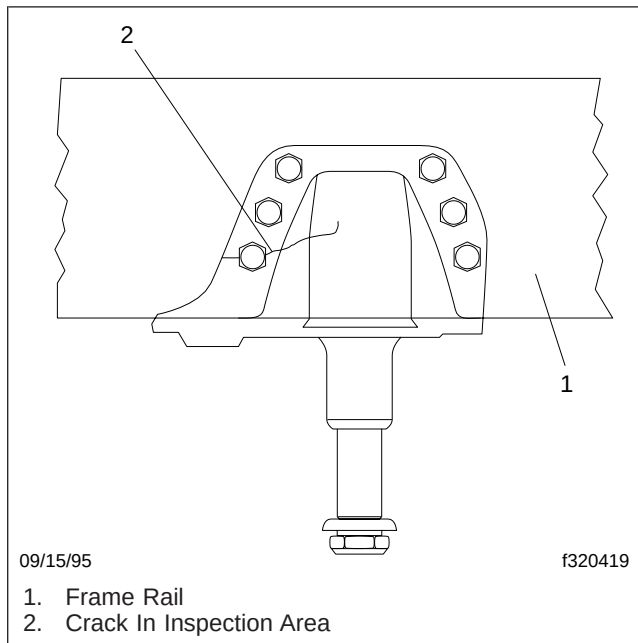

Fig. 8, Hendrickson RS Series Vertical Mounting Flange
2. Inspect each frame hanger for any evidence of cracks in the vertical mounting flange. See **Fig. 8**.